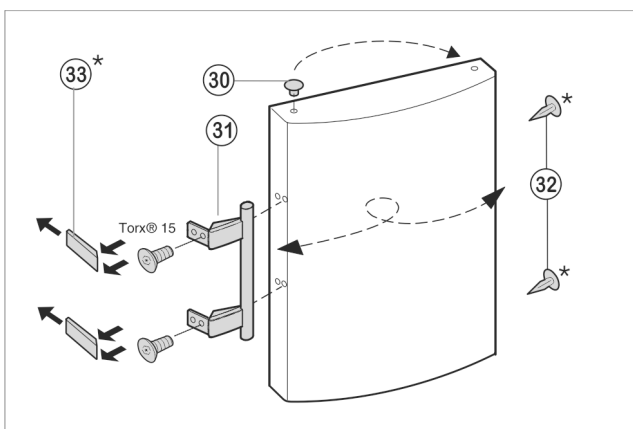

Fig. 10
- ▶ Lift the stopper Fig. 10 (30) out of the door bearing bush and transfer it.
- ▶ Detach door handle Fig. 10 (31), stoppers Fig. 10 (32) and pressure plates Fig. 10 (33) plates and transfer to the opposite side